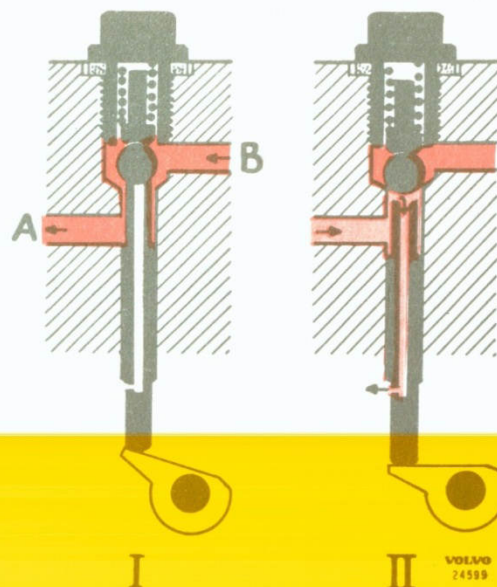

Fig. 3-38. Control valve, early prod.
When the control valve (6) opens (position I, Fig. 3-38), oil under pressure from the pump flows via the valve to two cylinders (1). The plungers in the cylinders then press the clutch disk forwards to make contact with the brake drum. When the overdrive is disengaged, the control valve shuts off the connection between the pump and cylinders. The clutch disk is then pressed rearwards by the springs. The oil in the cylinders flows out through the hollow valve rod into the overdrive housing, see II, Fig. 3-38.
For details, see under Fig. 3-38